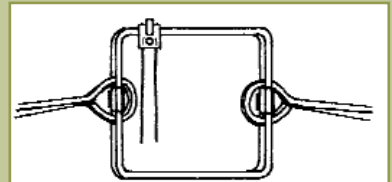

Figure BV2: Moving the trigger to one side of a bodygrip trap should decrease the likelihood of capturing a river otter.
- Consider using a "side-parallel" position (Figure BV2) for the trigger wires on beaver bodygrip traps. Also consider the use of tension-adjustable triggers, or two-way triggers (those that don't spring when pushed sideways).